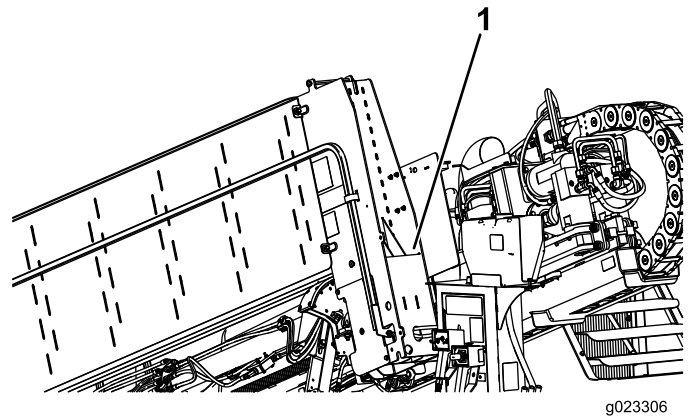

Figure 98
7. Store the cylinder lock next to the anti-freeze tank (Figure 98).